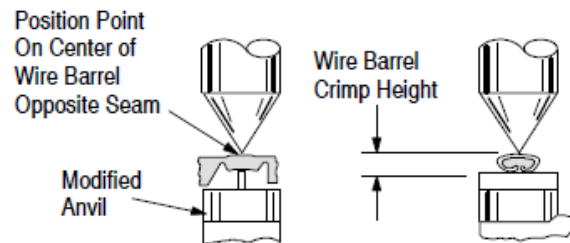

Figure 4
This inspection requires the use of micrometer with a modified anvil as shown in Figure 4.
3. Using a crimp height comparator, measure wire barrel crimp height as shown in Figure 4. If the crimp height conforms to that marked on the tool, the tool is considered dimensionally correct. If not, return the tool to TE for evaluation and repair (refer to Section 5; REPLACEMENT and REPAIR).